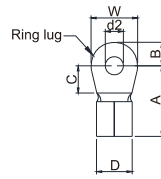
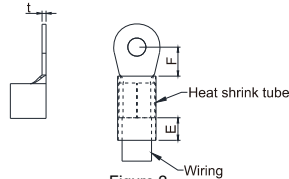

Figure 1
Figure 2
- Use the specified ring lug for main circuit terminal wiring. See Figure 1 and Figure 2 for ring lug specifications. For other types of wiring use the wires that comply with the local regulations.
- After crimping the wire to the ring lug (must be UL approved), UL and CSA approved recognized component (YDPU2), install heat shrink tube rated at a minimum of 600 V_{AC} insulation over the live part. Refer to Figure 2 below.